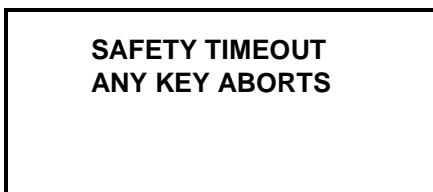

Figure 121
5. Clearing the Defaults message will initiate the Safety Timeout screen. (See Figure 121.)